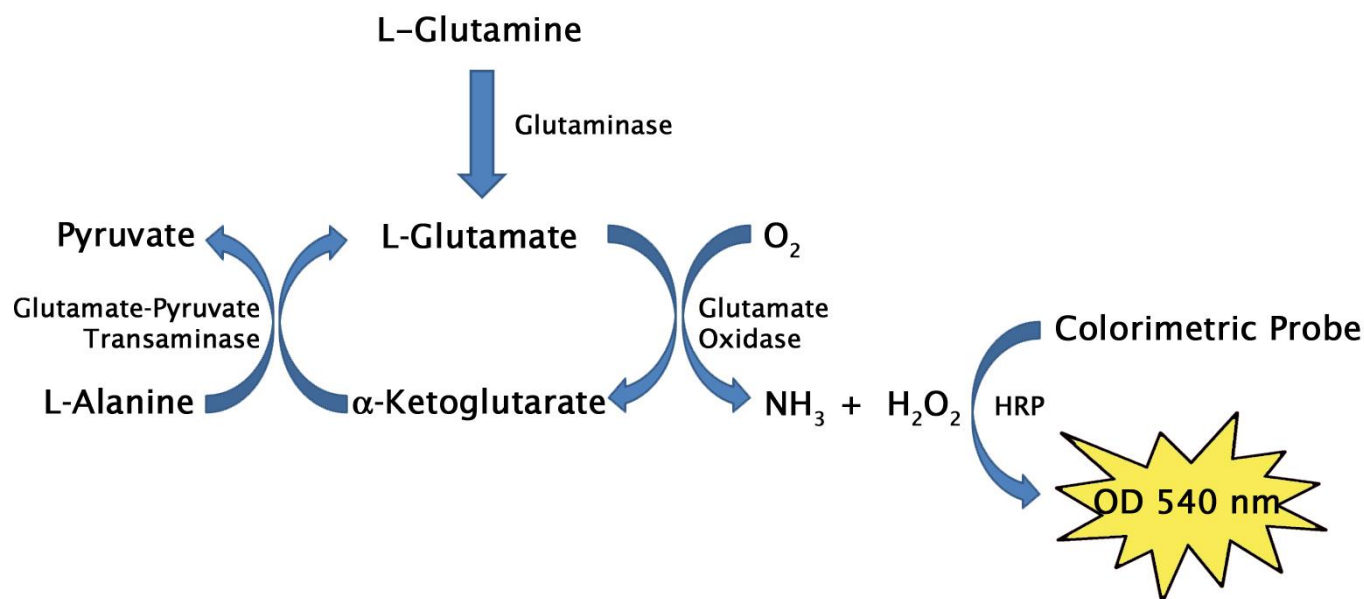

Figure 1. Glutamine Assay Principle.
The Glutamine Assay Kit is a sensitive quantitative colorimetric assay for glutamate. Glutaminase converts glutamine and H_2O to glutamate and NH_3 . Glutamate oxidase converts glutamate to α -ketoglutarate and NH_3 as well as H_2O_2 . L-alanine and glutamate-pyruvate transaminase are also added to the reaction in order to regenerate glutamate and H_2O_2 . As a result, multiple rounds of the reaction occur which results in significant amplification of H_2O_2 production. The H_2O_2 is then detected with a highly specific colorimetric probe. Horseradish peroxidase catalyzes the reaction between the probe and hydrogen peroxide, which bind in a 1:1 ratio. Samples and standards are incubated for 30 minutes and then read with a standard 96-well colorimetric plate reader (Figure 1). Samples are compared to a known concentration of glutamine standard within the 96-well microtiter plate format.
4. Graph the standard curve (see Figure 1).